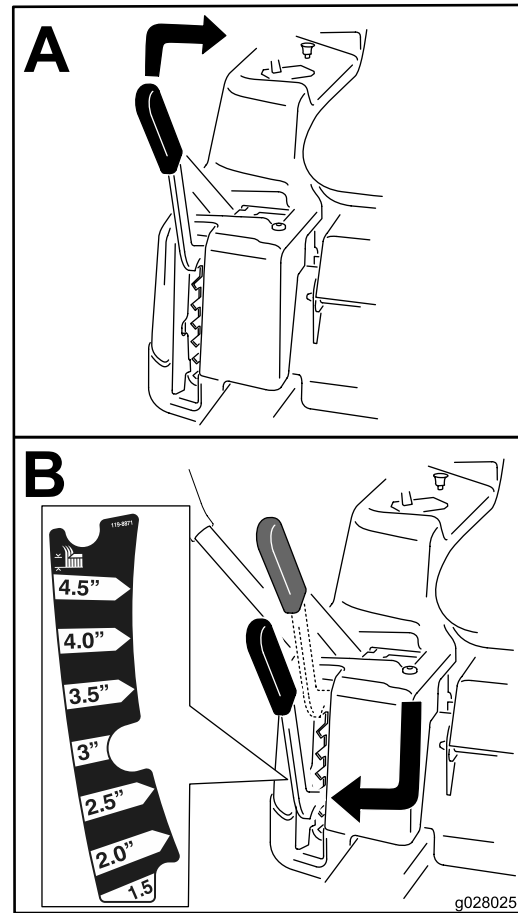

Figure 22
**Note:** The transport position is the highest height-of-cut position or cutting height at 115 mm (4-1/2 inches) as shown in Figure 22.
Height of cut is controlled by the lever located to the right of the operating position (Figure 22).